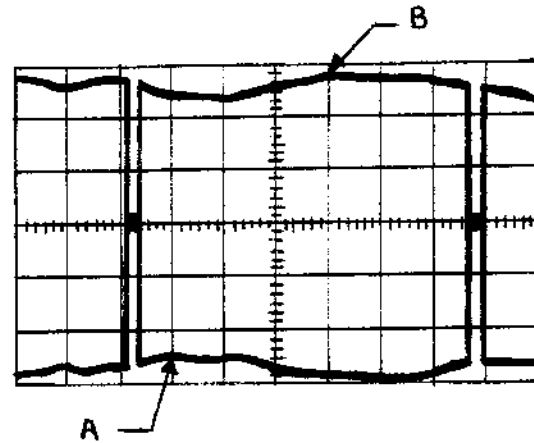

Figure 3: Average Gain Measurement
- 3 Place point A on a reference line and the number of centimeters between point A and point B times V/cm is the average peak-to-peak voltage (see Figure 3) for this signal. Adjust the potentiometer located on the A section of the G085 Module for the desired value.